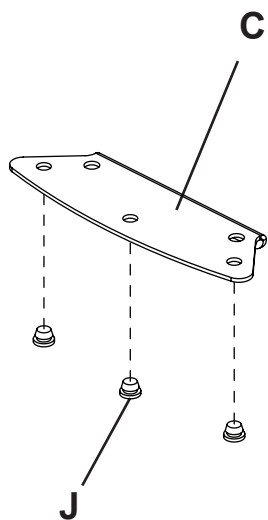

Figure 2.1
2 Press three button bumpers (J) into shelf clamp bracket (C) as shown in figure 2.1